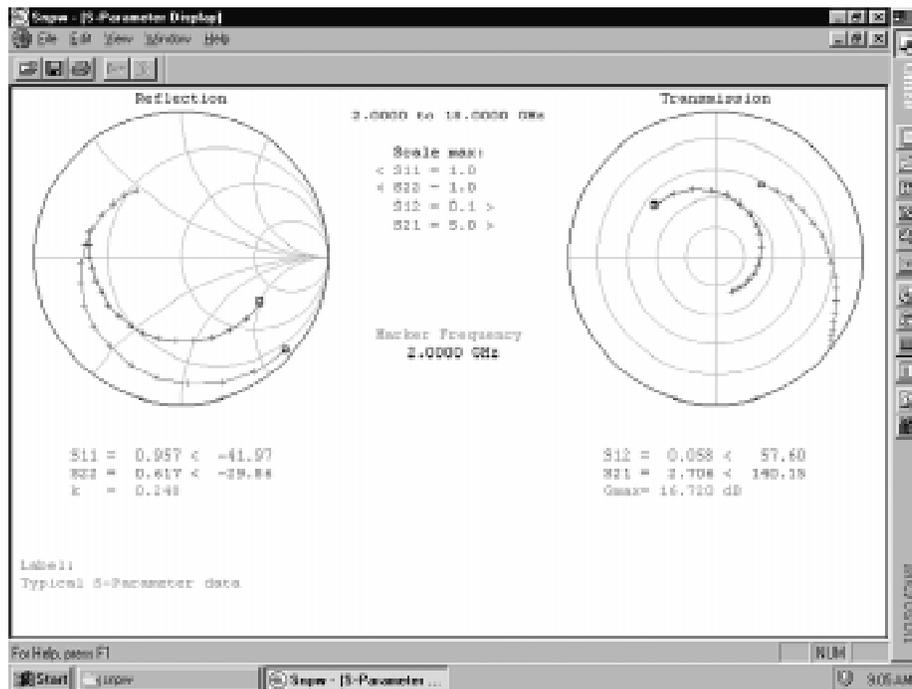

Figure 6-1. Typical S-Parameter Display
- The s-parameter display (see Figure 6-1) shows all four parameters on a Smith chart (reflection) and a polar chart (transmission). Use the <Left/Right Arrow> keys to move through the frequency range. The parameter values at each frequency are displayed on the left side of the screen. To display the values at a specific frequency: select <View >, <Marker Frequency> from the menu bar; highlight and click on <Marker Frequency>; or, press <Ctrl-F>. Then select the frequency from the pop-up window.
- f. The s-parameter display shows all four parameters on a Smith chart (reflection) and a polar chart (transmission). The display is similar to Figure 6-1 except that the data applies to a single bias value shown at the bottom of the screen. Use the <Left/Right Arrow> keys to move through the frequency range. The parameter values at each frequency are displayed on the left side of the screen. To display the values at a specific